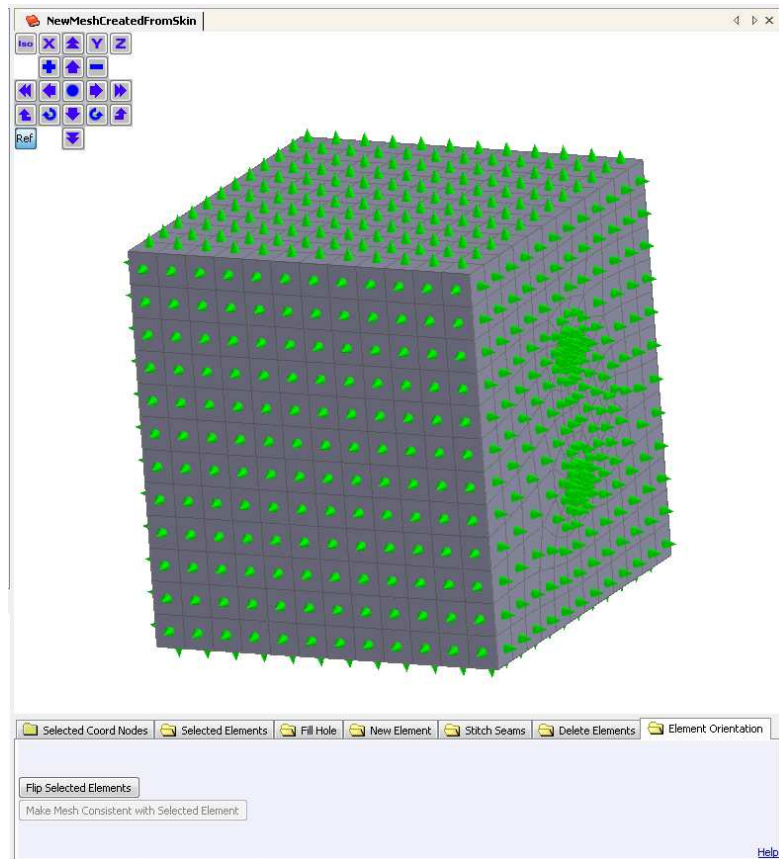

Figure 9.21: Element orientations.
- From the tabbed windows located below the mesh select: **Element Orientation** to view the direction of element normals (refer to Figure 9.21). The green arrow indicates the positive direction and the red arrow indicates the negative direction of